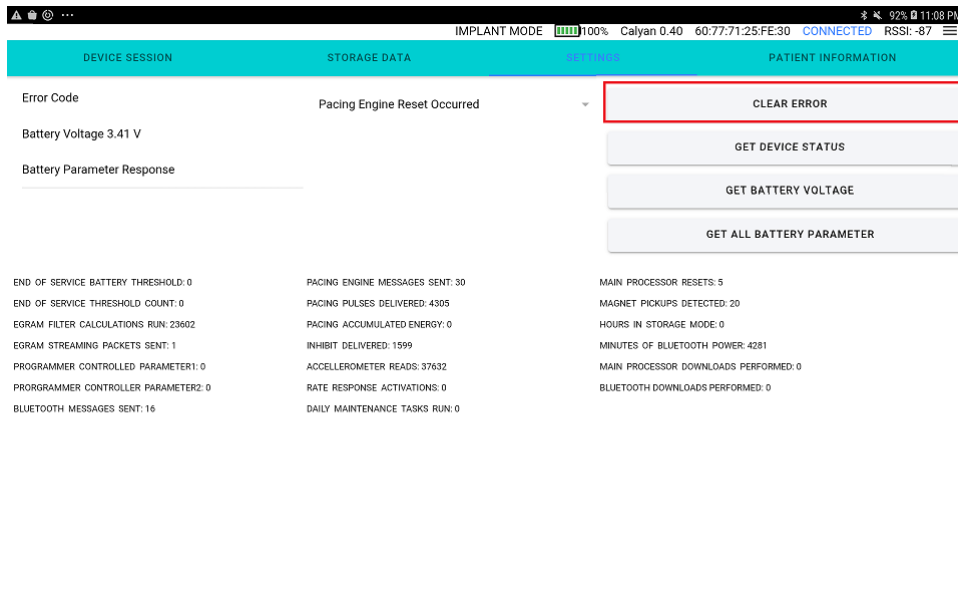

Figure 189: Clear Error
4. Tap on the “CLEAR ERROR” button (Figure 189).
- 4. Tap on the “CLEAR ERROR” button (Figure 189).